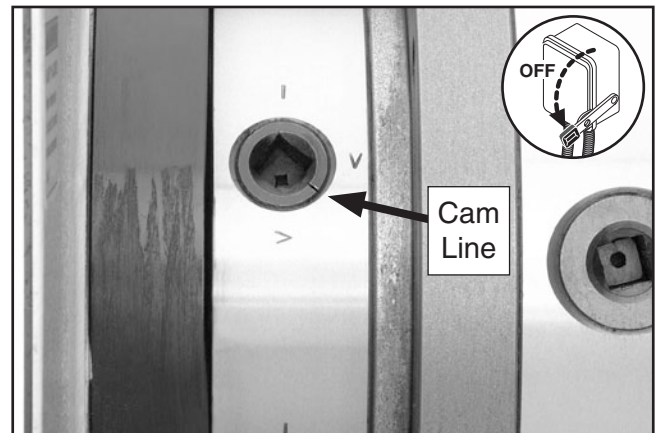

Figure 30. Cam and lines.
7. Turn a camlock with the chuck key until the cam line falls between the "V" marks shown in Figure 30.
Note: If any of the cam lines (Figure 30) do not fall between the "V" marks when the cam lock is tight, you must adjust the offending camlock stud as discussed in **Camlock Stud Adjustment** on Page 24.